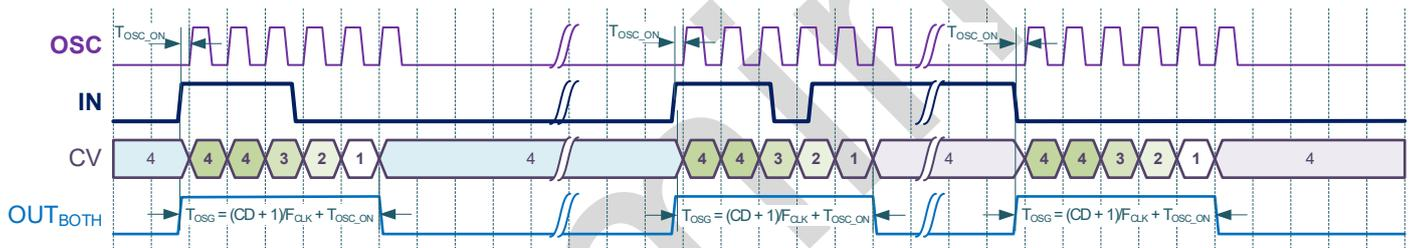

Figure 9.18. One-Shot Generator Mode Timing Diagram (Both Edge, Auto OSC)
In One-Shot mode this macrocell generates a high-level pulse with a set width, when detecting the edge event, which is selectable by the registers, on its IN input. The pulse width is determined by the Control Data, input clock signal and selected divider value. Any incoming edges are ignored during pulse width generation. The timing diagrams of this mode is shown in the Figure 9.13...Figure 9.18.
- One Shot (Figure 9.13...Figure 9.18)